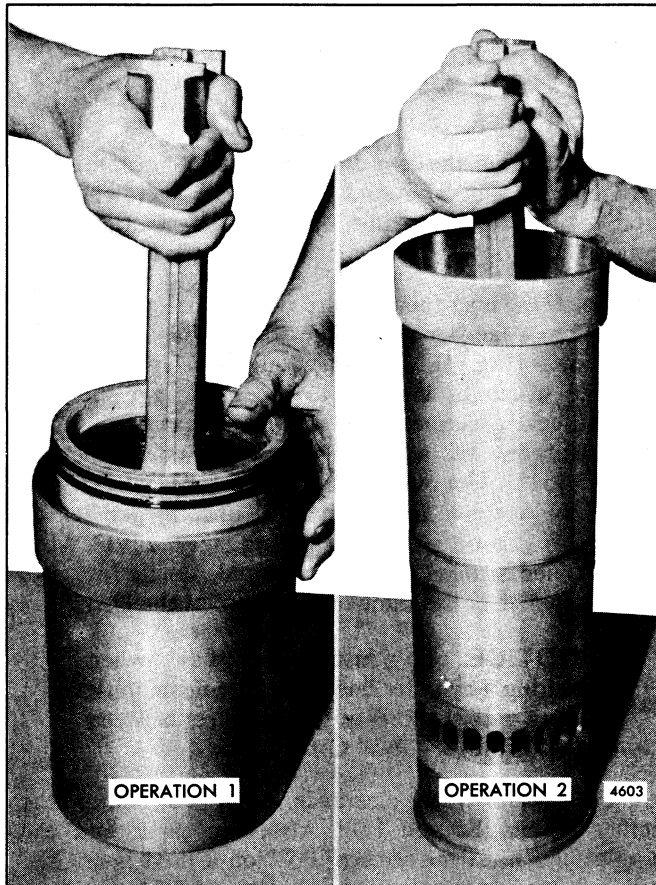

Fig. 5 - Installing Piston and Connecting Rod Assembly in Ring Compressor and Cylinder Liner
4. Start the top of the piston straight into the ring 3. compressor. Then, push the piston down until it contacts the wood block ("Operation 1" of Fig. 5).
6. Place the ring compressor and the piston and connecting rod assembly on the liner so the numbers on the rod and cap are aligned with the matchmark on the liner ("Operation 2" of Fig. 5). The numbers on the side of the connecting rod and cap identify the rod with the cap and indicate the particular cylinder in which they are used. If a new service connecting rod is to be installed, the same identification numbers must be stamped in the same location as on the connecting rod that was replaced.